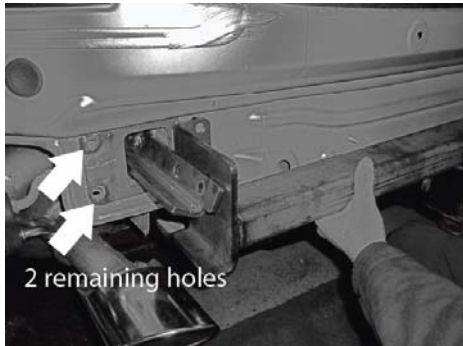

Figure 5 – Fit Bolts in spare holes to hold exhaust Muffler.
Important: Fit M12 bolts, Spring washer, Flat washers and M12 nut (items 10, 13, 13, 11 & 12), on the remaining 2 holes of the bumper support, to hold the exhaust muffler. Holes are shown in Figure 5.